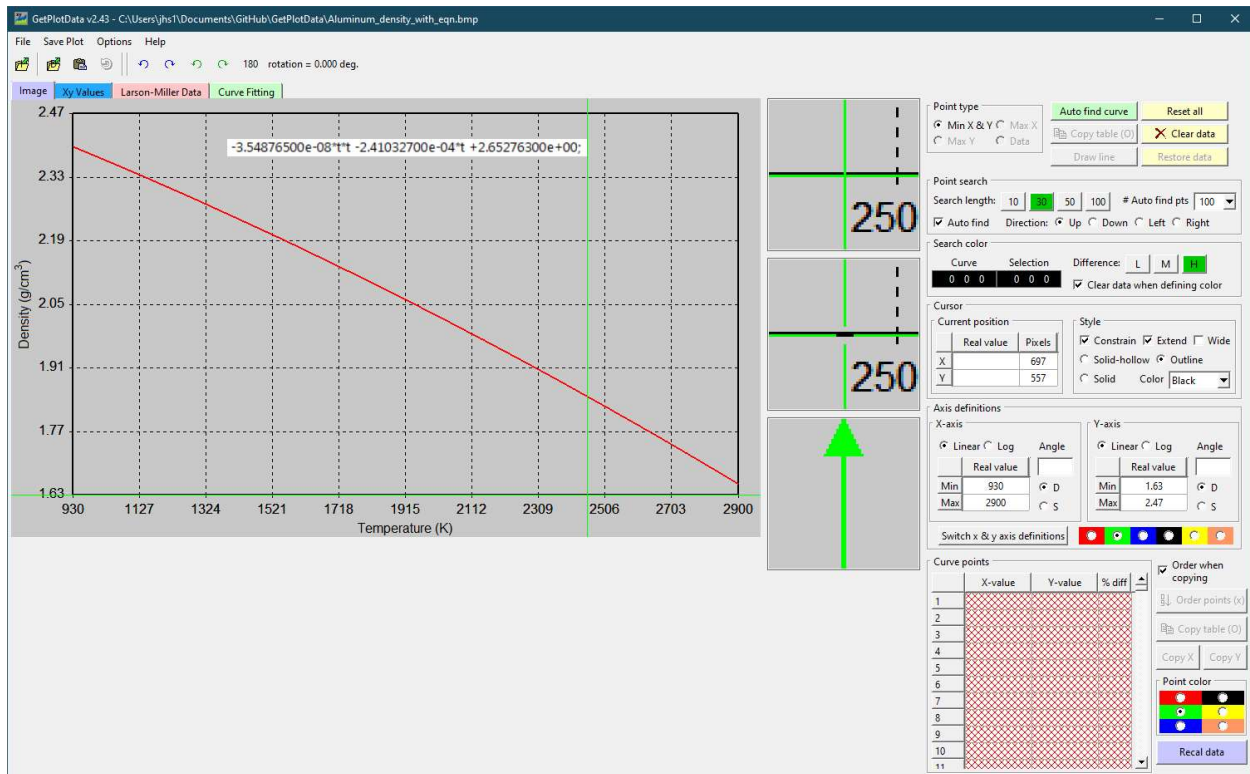

Figure 2. Main with plot.
Step 2: Import a plot image (Figure 2)